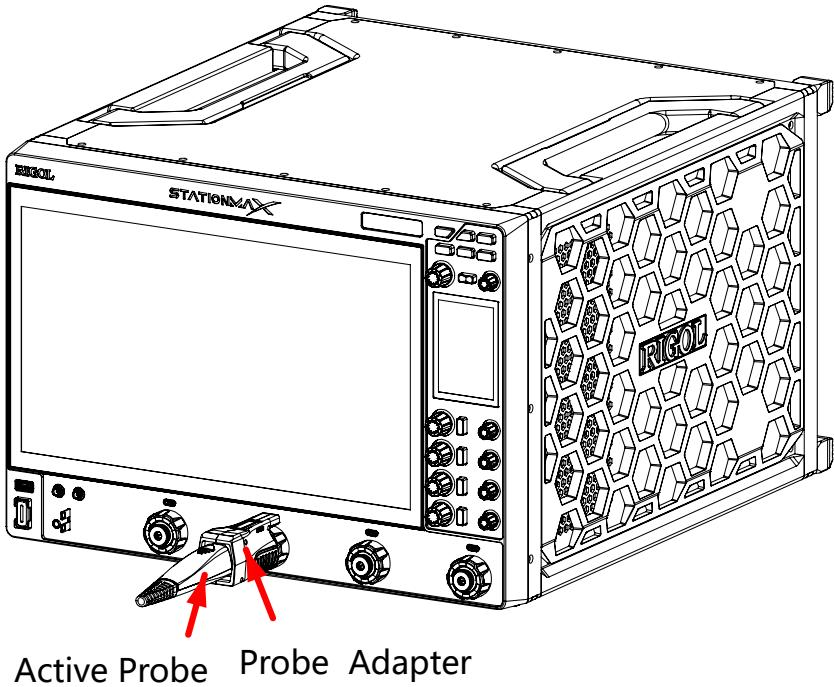

Figure 5.4 To Connect the Active Probe
2. Connect the other end of the preamp to an analog channel input terminal on the front panel of the oscilloscope via the probe converter, as shown in *Figure 5.4*. Note that you need to push the probe to the due position to lock it firmly.